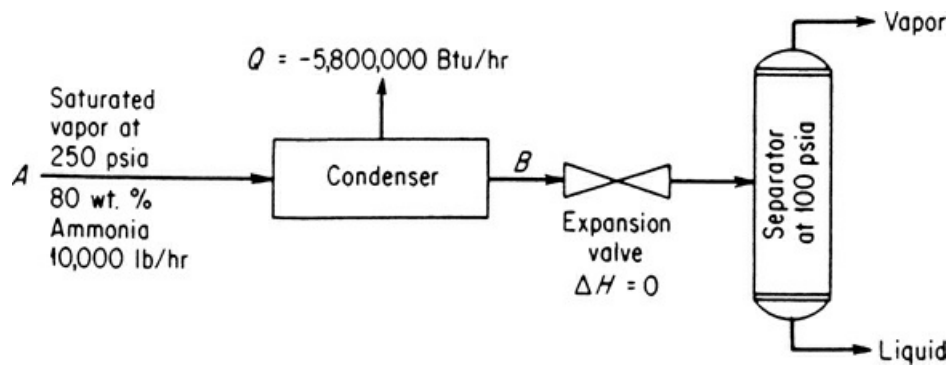

Figure P12.15
12.15 *A mixture of ammonia and water in the vapor phase, saturated at 250 psia and containing 80% by weight ammonia, is passed through a condenser at a rate of 10,000 lb/hr. Heat is removed from the mixture at the rate of 5,800,000 Btu/hr while the mixture passes through a cooler. The mixture is then expanded to a pressure of 100 psia and passes into a separator. A flowsheet of the process is given in Figure P12.15. If the heat loss from the equipment to the surroundings is neglected, determine the composition of the liquid leaving the separator by material and energy balances.